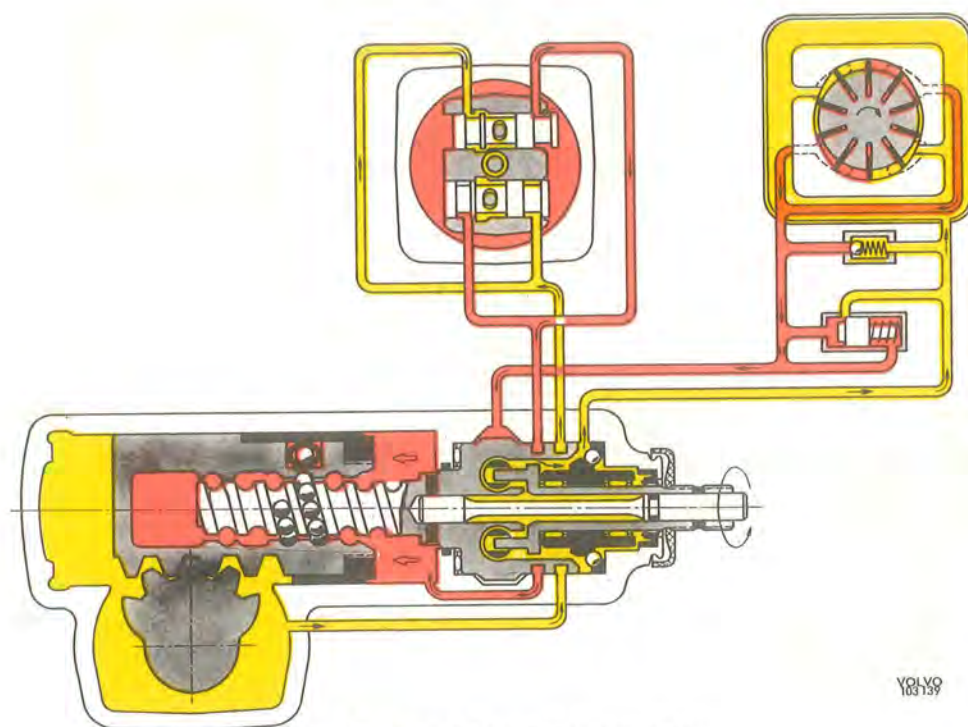

Fig. 6-34. Principle of function, left-hand swing
When the steering wheel is turned to the left (see Fig. 6-34) movement is transmitted via the control spindle (16) and the torsion rod (17) to the steering cam (15), so that the piston (2) is screwed to the left in the figure (downwards in the vehicle). Since the torsion rod is resilient, the steering spindle will be turned in relation to the steering cam and thus influence the valves placed in the cam. The greater the turning movement, the greater will be the valve displacement. One of the control valves (9) is then displaced to the